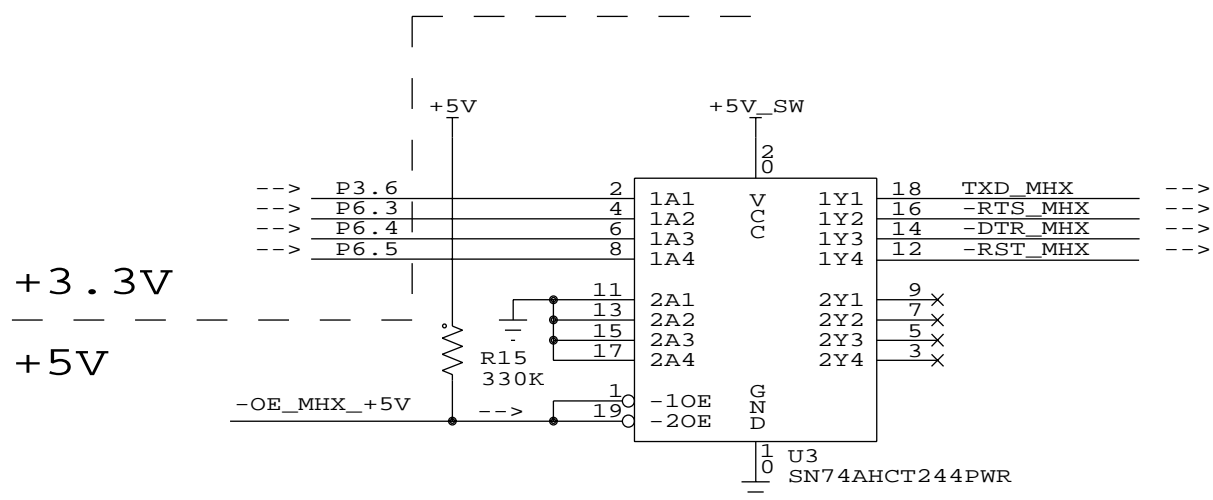

Figure 5: Level Shifting up to 5V using AHCT Logic
- * To translate 3.3V up to 5V, we use half of an AHCT244 powered at 5V (on demand). The $-\text{OE}$ control signal must also be level-shifted to 5V for minimum power consumption (Figure 5).